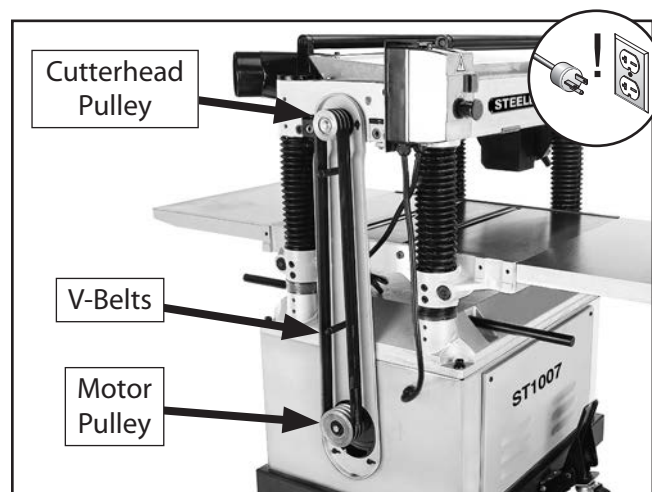

Figure 49. Belt cover removed to expose V-belts and pulleys.
2. Remove V-belt cover from left side of machine to expose belts, as shown in **Figure 49**.